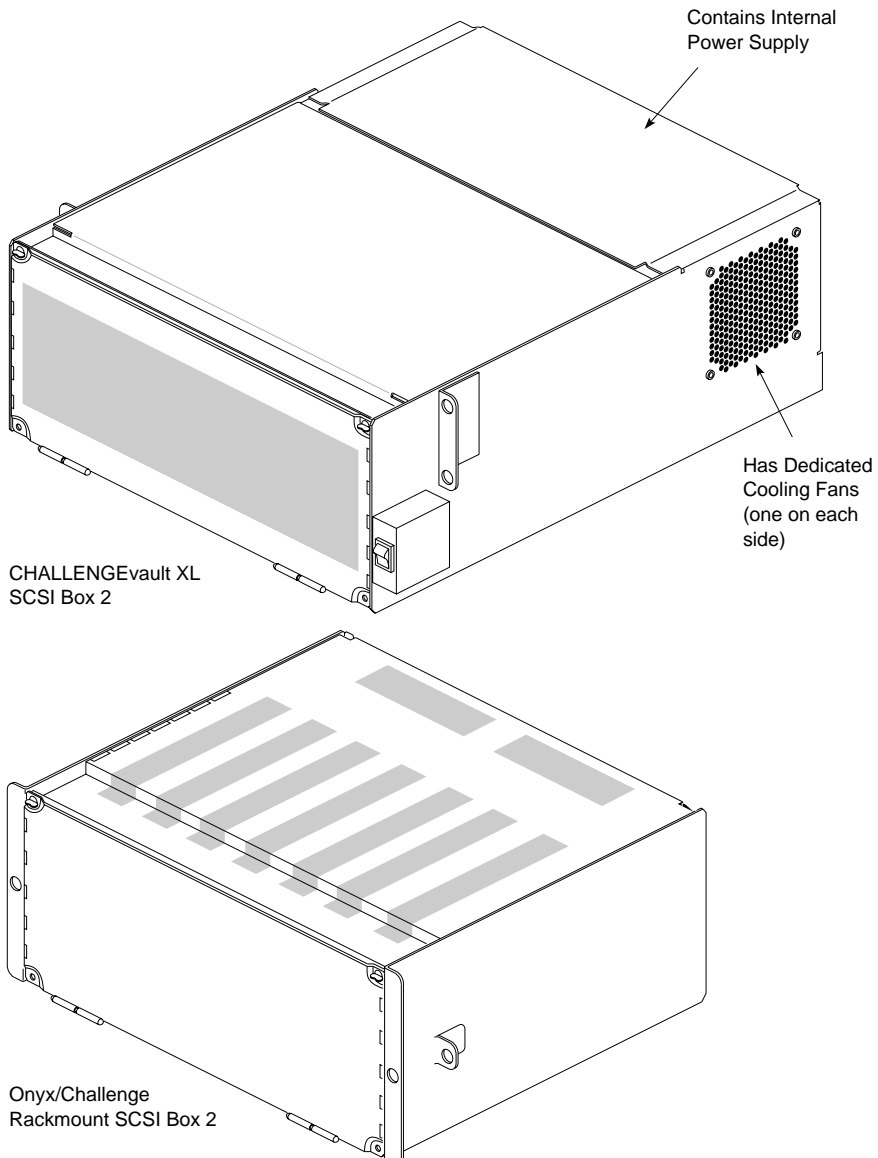

Figure 1-1 Comparison of Vault and System “Stubby” Rack Boxes
- Figure 1-1** Comparison of Vault and System “Stubby” Rack Boxes1-3
RAID version of the “stubby” SCSI box that installs only in the main system rack uses the same power brick as the non-RAID SCSIBox 2. Note that there is no internal RAID configuration for deskside systems. Deskside systems connect to RAID boxes installed in a Vault (T2) expansion rack. See Figure 1-1 for an example of the two.